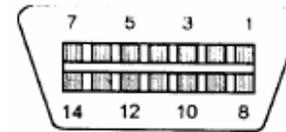

Fig. 3
2.2.1 Shown at Fig.3 are the pin assignments for the load cell connector